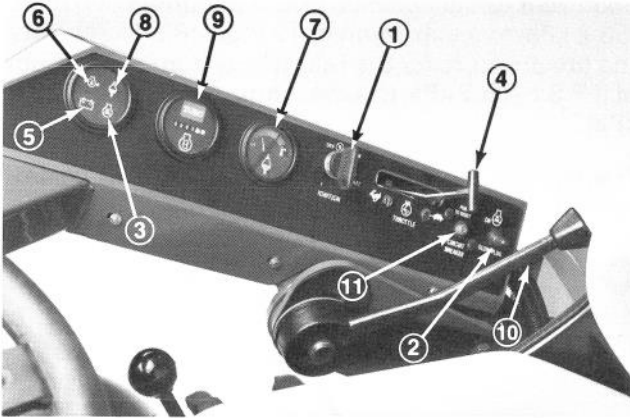

Figure 17
IGNITION KEY SWITCH (Fig. 17)
GLOW PLUG SWITCH AND INDICATOR (Fig. 17)
THROTTLE CONTROL (Fig. 17)
BATTERY CHARGING INDICATOR (Fig. 17)
ENGINE OIL PRESSURE INDICATOR (Fig. 17)
COOLANT TEMPERATURE GAUGE & INDICATOR (Fig. 17)
HOUR METER (Fig. 17)
STEERING ARM HEIGHT SELECTOR LEVER (Fig. 17)
CIRCUIT BREAKER (Fig. 17)
- When engine is cold, push glow plug switch to ON position (Fig. 17) and hold for suggested interval.
- Turn engine key to START position (Fig. 17). Release key immediately when engine starts and allow it to return to ON position. Move throttle control to SLOW position.